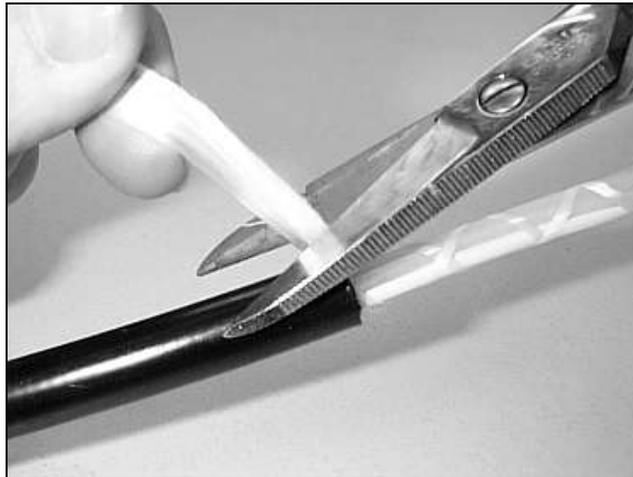

Figure 14 – Cut and remove the dielectric strength elements.
4.18 Consult the splice closure instructions to determine the length of the dielectric strength elements that is required for strain relief. Cut and remove the dielectric strength elements as required (Figure 14).